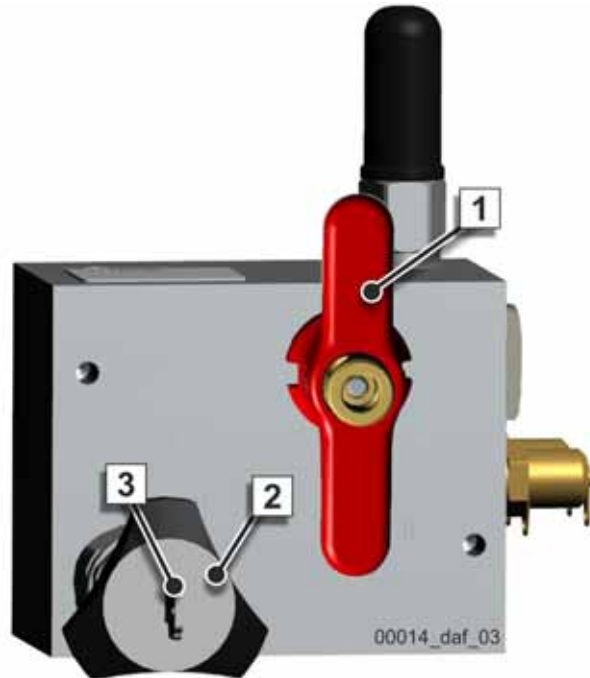

Fig. 550
When delivered, the ball valve (1) (**Fig. 550**) is situated in an upright position (=max. concrete pressure).
8. Now set the new maximum pressure using the hand-wheel (2) (**Fig. 550**).